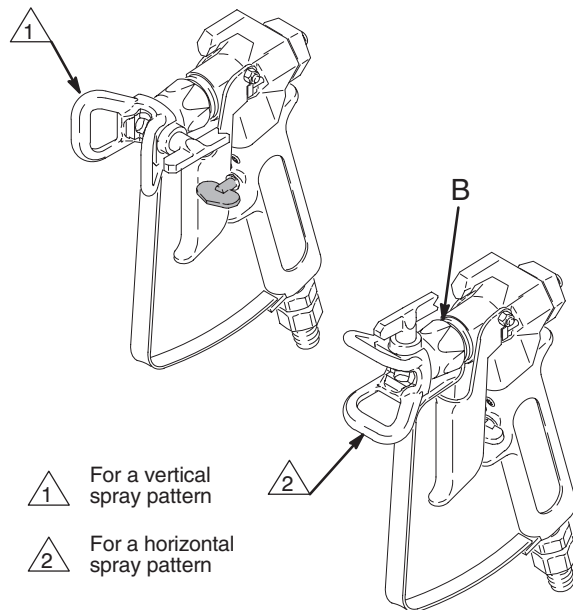

Fig. 9
- c. Test spray pattern. To adjust direction of spray pattern, engage gun safety latch and loosen retaining nut (B). Position tip guard horizontally for a horizontal pattern or vertically for a vertical pattern. Hold tip guard in place while tightening retaining nut. See Fig. 9.